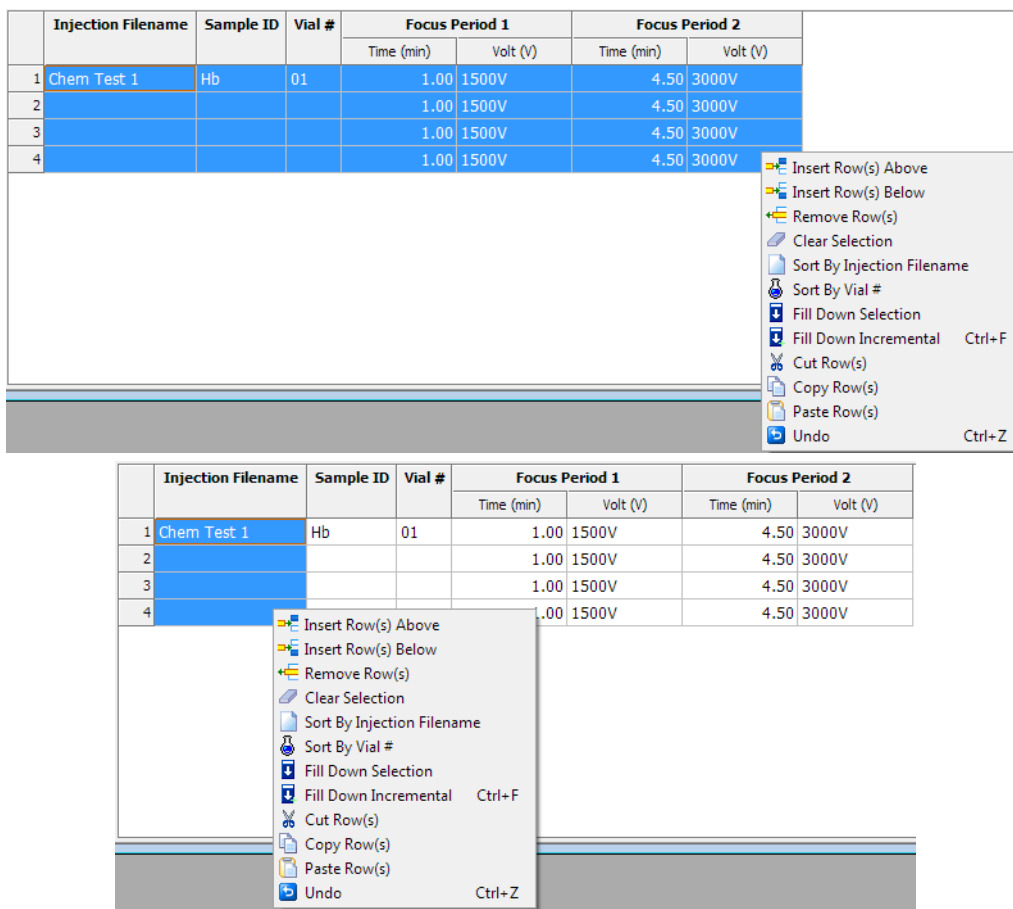

Figure 6-21: Selecting rows and cells to auto-fill the table.
- a. **To copy a row and use it to fill other rows** - Click the first cell of the row you want to fill from. Hold the mouse button down and select the rest of the cells in the row. Right click and select a fill option (Figure 6-21 top).
- b. **To copy a cell and use it to fill other cells in the column** - Click the cell you want to fill from. Hold the mouse button down and select the other cells in the column you want to fill. Right click and select a fill option (Figure 6-21 bottom).